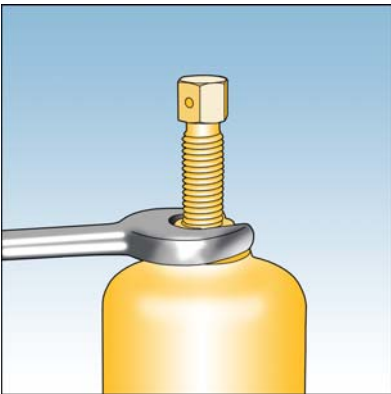

Fig. 2
1. Loosen locknut (19mm A/F) on spring adjusting stem. See Fig. 2.